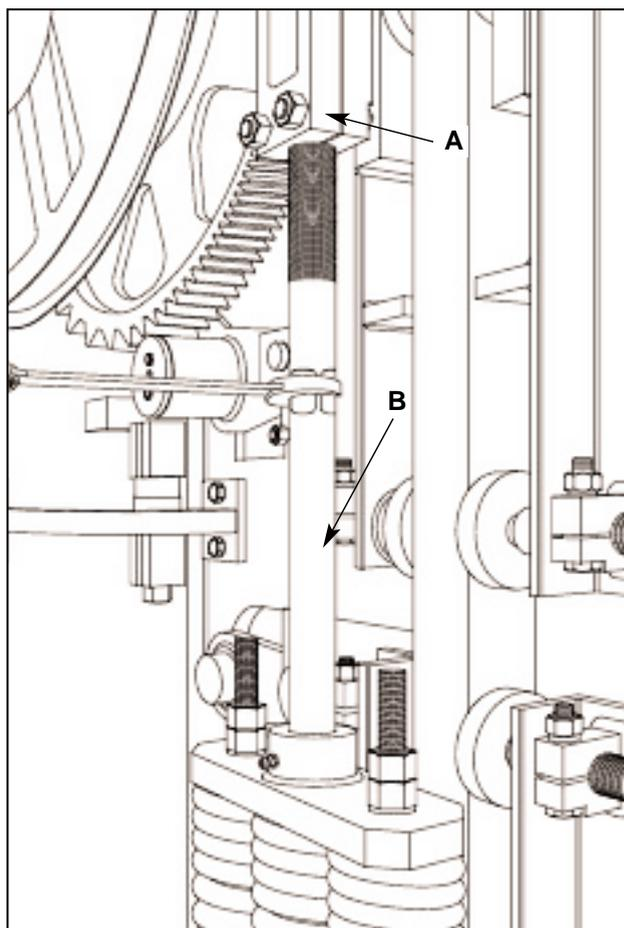

Figure 5.18 PALLET RECEIVER LINK ROD (LEFT SIDE SHOWN).
- 5.5.4 If the dimension on each side is not approximately 5/8" [16mm], adjustment must be made using the pallet receiver link rods (B) (see figure 5.18, next page), after loosening nut (A) (see figure 5.18).
5.5.8 If the dimension on each side is not 5/8" [16mm], adjustment must be made using the pallet receiver link rods (B) (see figure 5.18), after loosening nut (A) (see figure 5.18).
5.5.11 Recheck level of mold and adjust following steps 5.5.3 to 5.5.5 until mold is perfectly levelled. Tighten nut (A) (see figure 5.18).